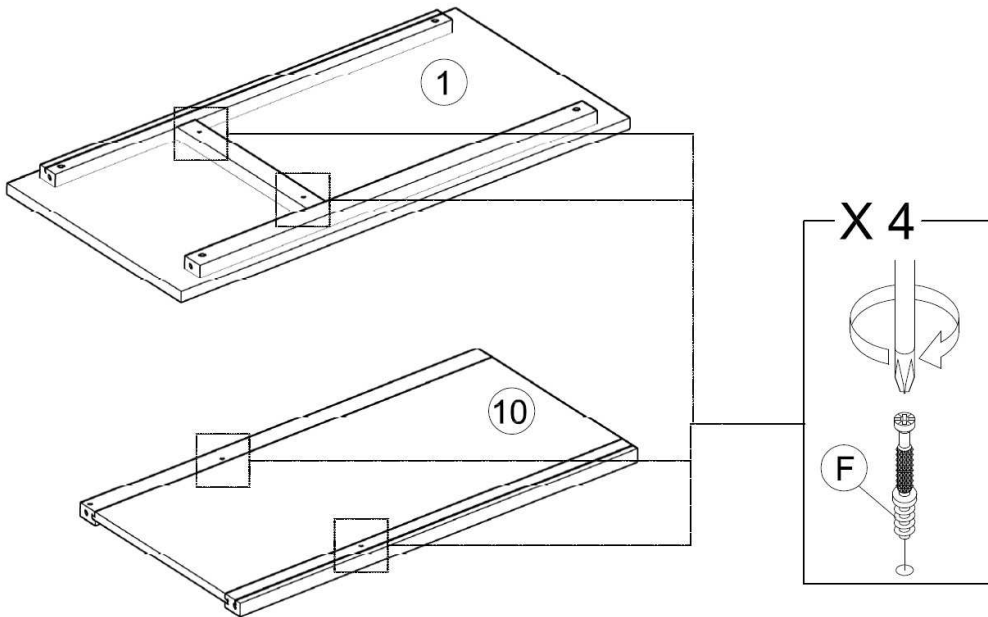

Figure 1
Place Bottom Panel (10) onto the unit and align the Cam Bolt (which assembled in Figure 1) to the Center Panel (8). Tighten using Cam Locks (G) using Screwdriver.